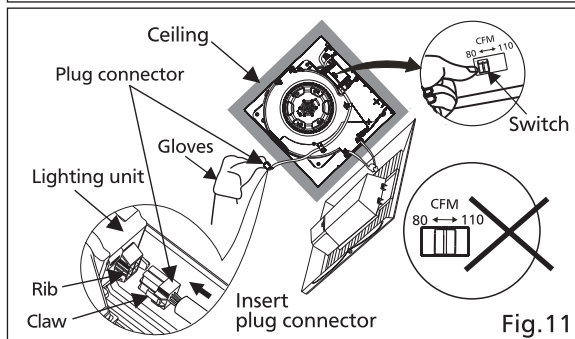

Fig.11
13. Insert the grille mounting spring on the wiring side into the slot and insert the plug connector into the housing of the lighting unit. (Fig.11)
- Before turning on the light, insure the connector is at the correct position. If not, the light will not work. (Fig.11)
14. Select the air volume speed by adjusting the switch. Factory setting is "80" position, sliding "110" is high airflow position. (Fig.11)
- Make sure the switch is not set at the middle position; otherwise the fan will not function. (Fig.11)